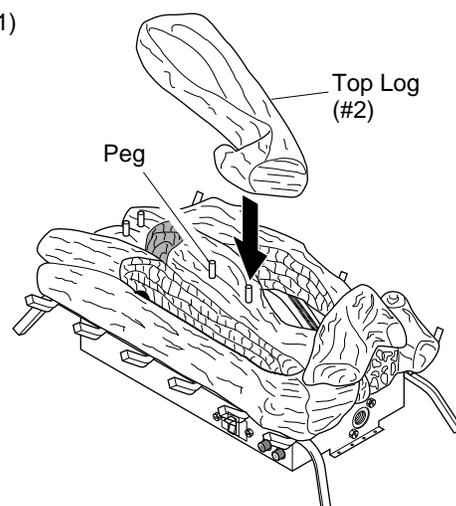

Figure 19 - Installing Top Log (#2)
2. Facing front of unit, place top log (#2) onto the pegs in the center of the bottom log (see Figure 19).